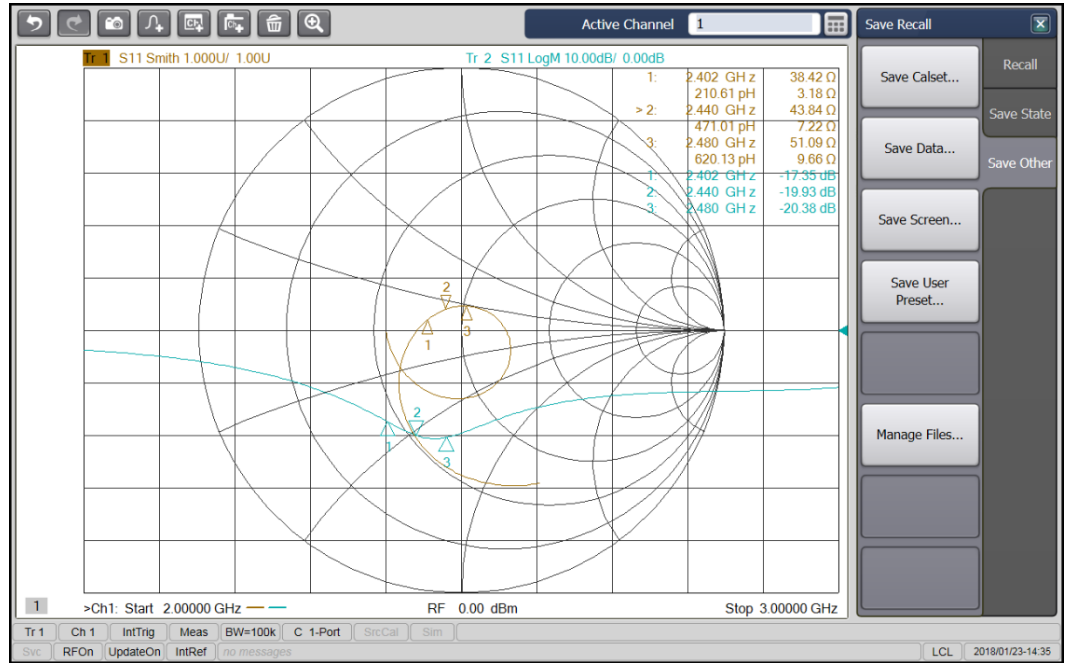

Fig 28. Rx return loss with smith chart
- The Rx S-parameters test result is shown in Fig 28.